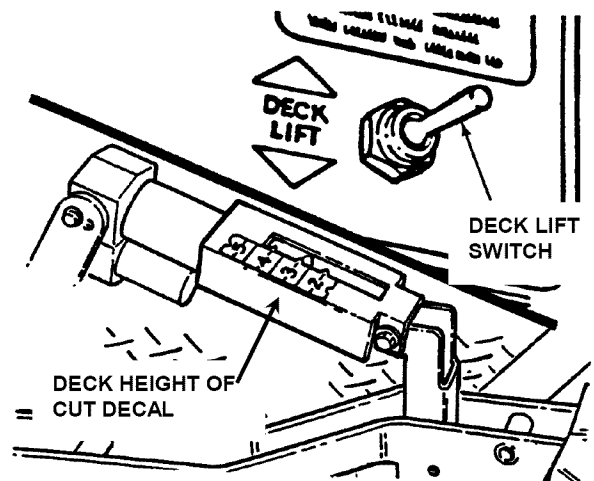

FIGURE 2.9
1. Adjust cutting height as desired to any position, using deck lift switch. When in desired height of cut, release switch. See Figure 2.9. Observe the height of cut decal located on the upper right top side of the deck to place deck at the correct height of cut. See Figure 2.9.